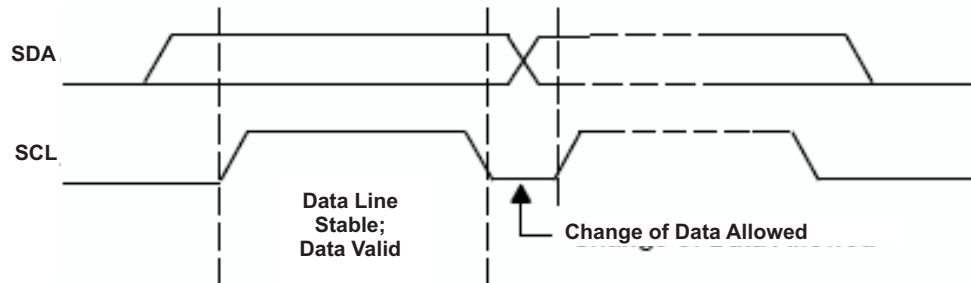
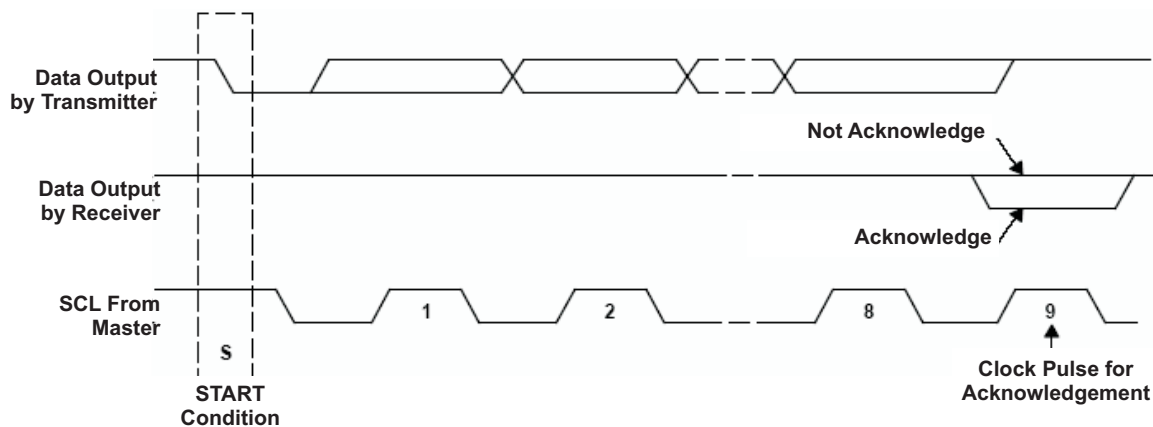

Figure 32. I²C Bit Transfer
Figure 33. I²C Acknowledge
- The master then generates the SCL pulses and transmits the 7-bit address and the *read/write direction bit* R/W on the SDA line. During all transmissions, the master ensures that data is *valid*. A *valid data condition* requires the SDA line to be stable during the entire high period of the clock pulse (see Figure 32). All devices recognize the address sent by the master and compare it to their internal fixed addresses. Only the slave device with a matching address generates an *acknowledge* (see Figure 33) by pulling the SDA line low during the entire high period of the ninth SCL cycle. On detecting this acknowledge, the master knows that a